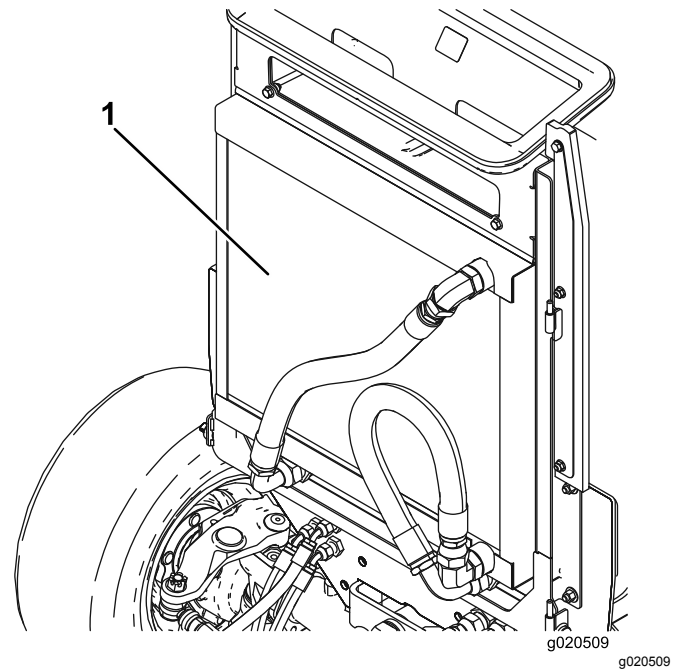

Figure 73
3. Thoroughly clean both sides of the oil cooler and the radiator (Figure 73) with compressed air. Start from the front and blow the debris out towards the back. Then clean from the back side and blow towards the front. Repeat procedure several times until all chaff and debris is removed.